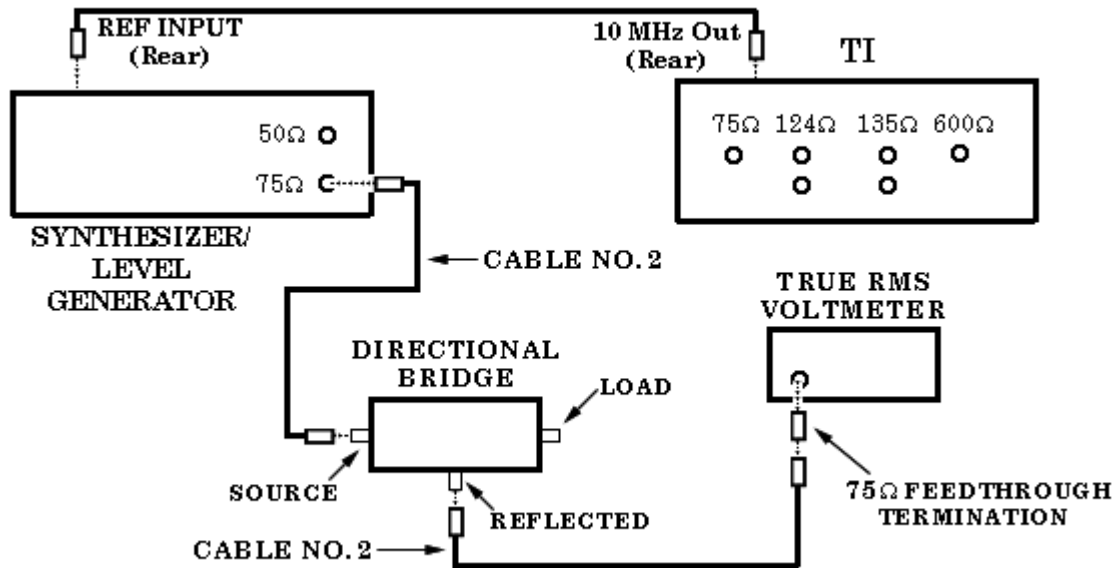

Figure 2. Return loss equipment setup.
(1) Connect equipment as shown in figure 2.
(2) Press TI **ENTRY [RECALL] [0]** and **TERMINATION [75 Ω]** pushbuttons.
(3) Set synthesizer/level generator for 1 MHz and amplitude for 0.0 dBm.
(4) Position true RMS voltmeter controls as listed in (a) through (d) below: